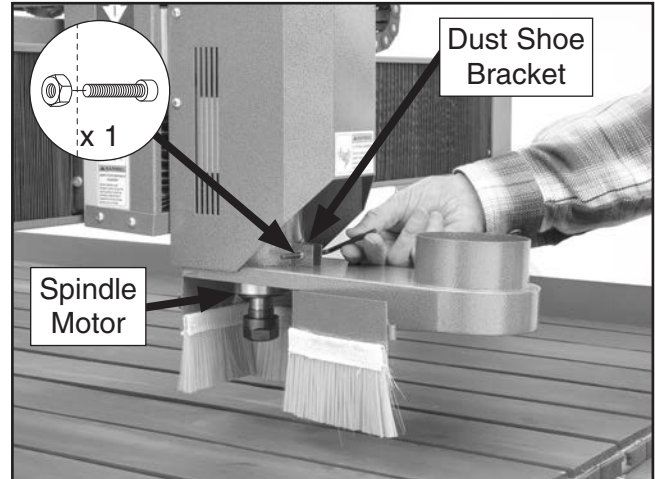

Figure 31. Example of attaching dust shoe bracket (dust shield removed for clarity).
2. Attach dust shoe bracket to spindle motor with included M5-.8 hex nut and M5-.8 x 30 cap screw (see **Figure 31**).